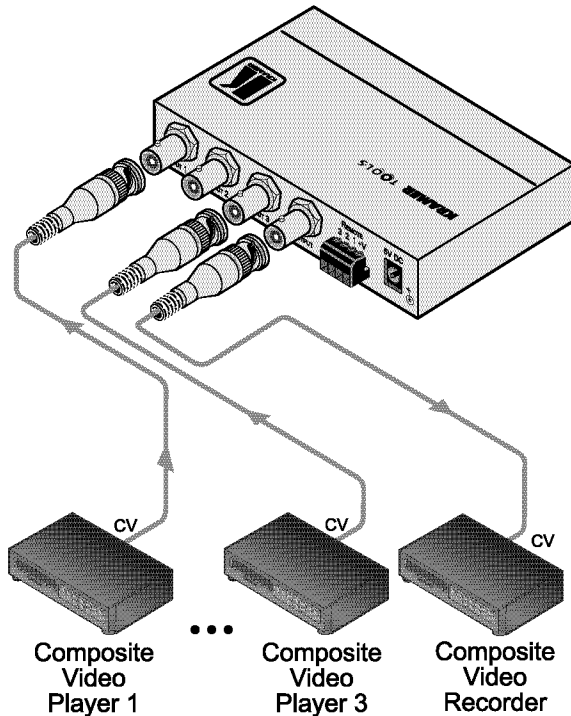

Figure 2: Connecting the VS-33Vx1 3x1 Video Switcher
| Figure 2: | Connecting the VS-33Vxl 3x1 Video Switcher | 5 |
You can use the **VS-33Vx1** to switch any one of three sources to a single output. To connect the **VS-33Vx1**, as illustrated in the example in Figure 2, do the following:
3. Connect the 5V DC power adapter to the power socket and connect the adapter to the mains electricity (not shown in Figure 2).